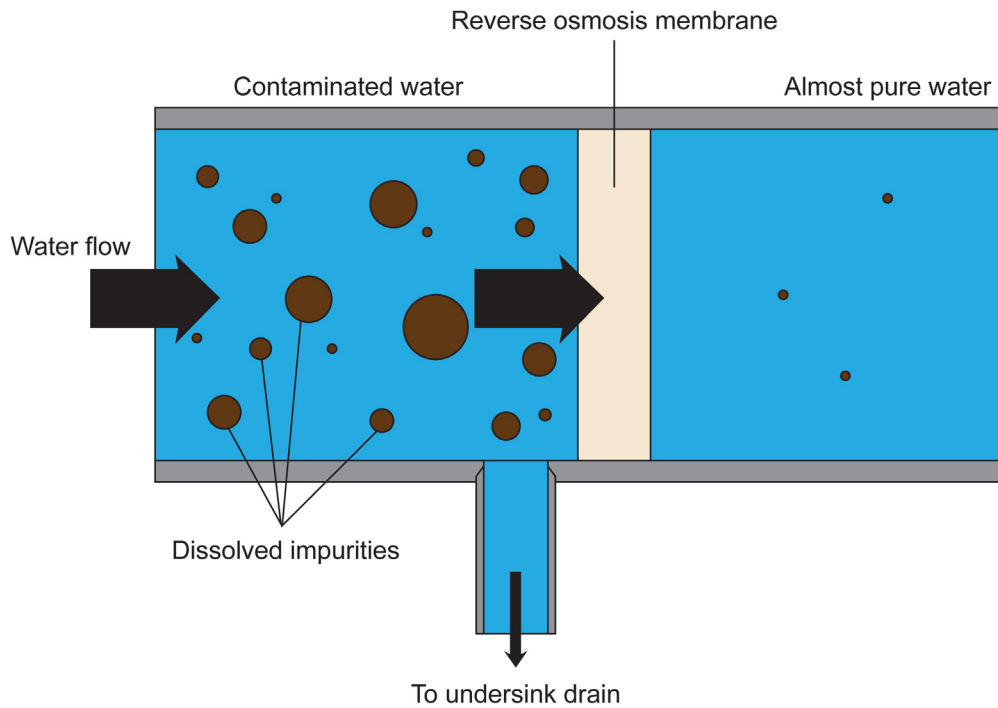

Figure 7. A reverse osmosis (RO) schematic.
Reverse osmosis (RO) units are typically POU devices capable of reducing the concentration of most dissolved and suspended inorganic impurities, but they are not typically recommended to remove organic impurities, including bacteria. With RO systems (fig. 7), impurities are removed as water is forced through a semipermeable membrane with microscopic holes that are large enough to allow water molecules to pass through but small enough to block most dissolved and suspended impurities. Ten to 20 percent of the water entering the RO system exits as treated water. The other 80 to 90 percent is wastewater that is diverted to a drain.